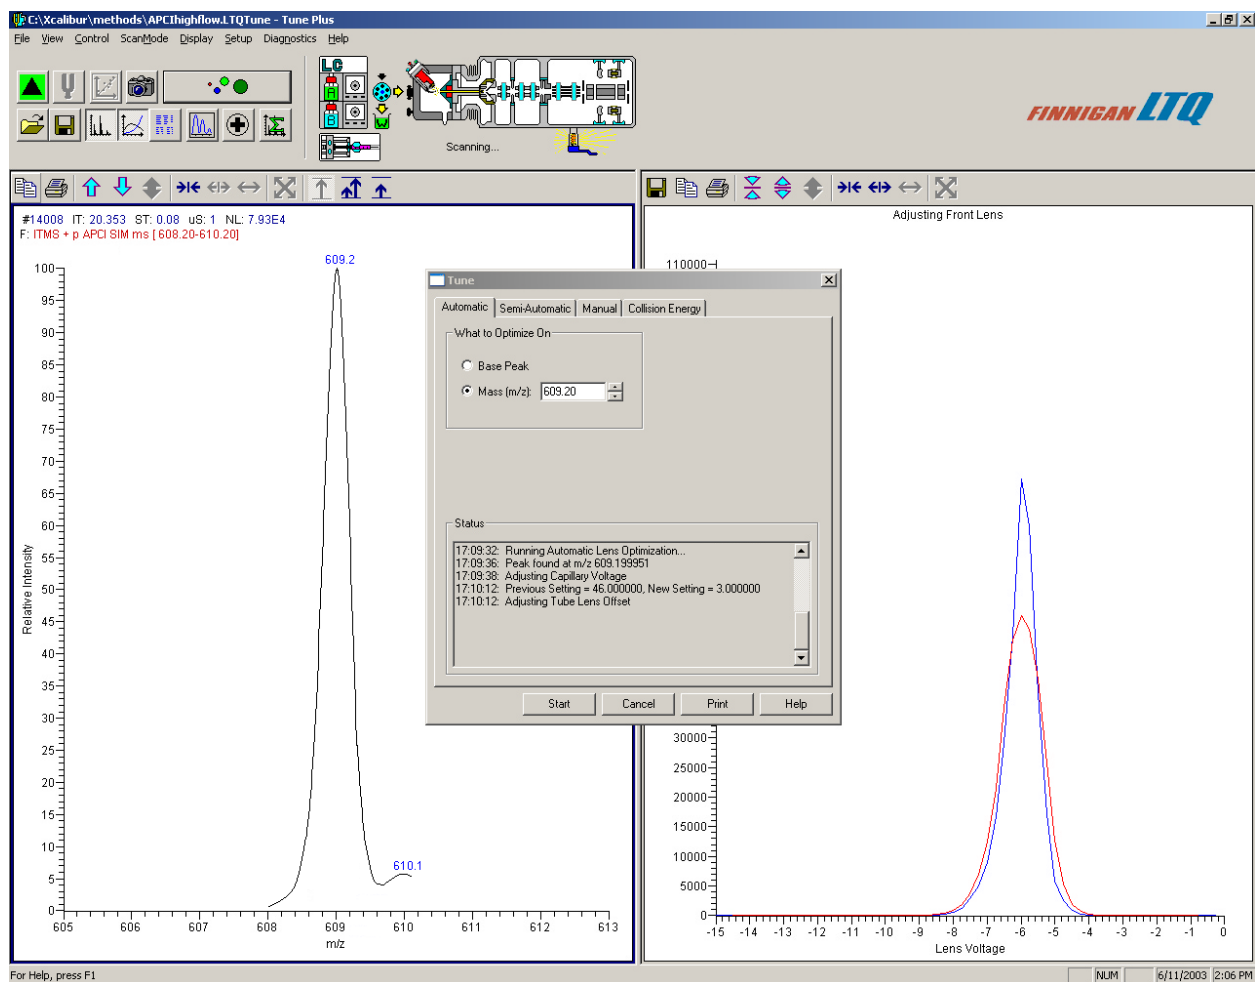

Figure 32. Tune Plus window with the Tune dialog box, showing the Automatic tuning page
7. Observe the Tune Plus window and the Tune dialog box. While automatic tuning is in progress, the LTQ MS detector displays various tests in the Spectrum and Graph views in the Tune Plus window and displays various messages in the Status group box in the Tune dialog box. Your Tune Plus window should now look similar to the one shown in Figure 32.